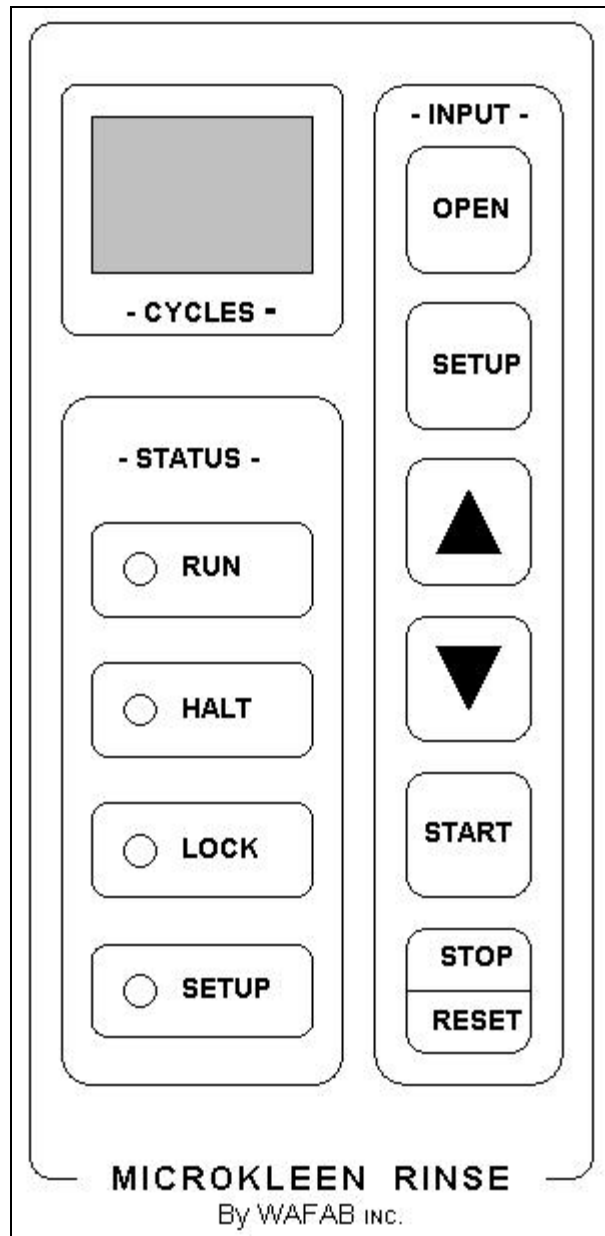
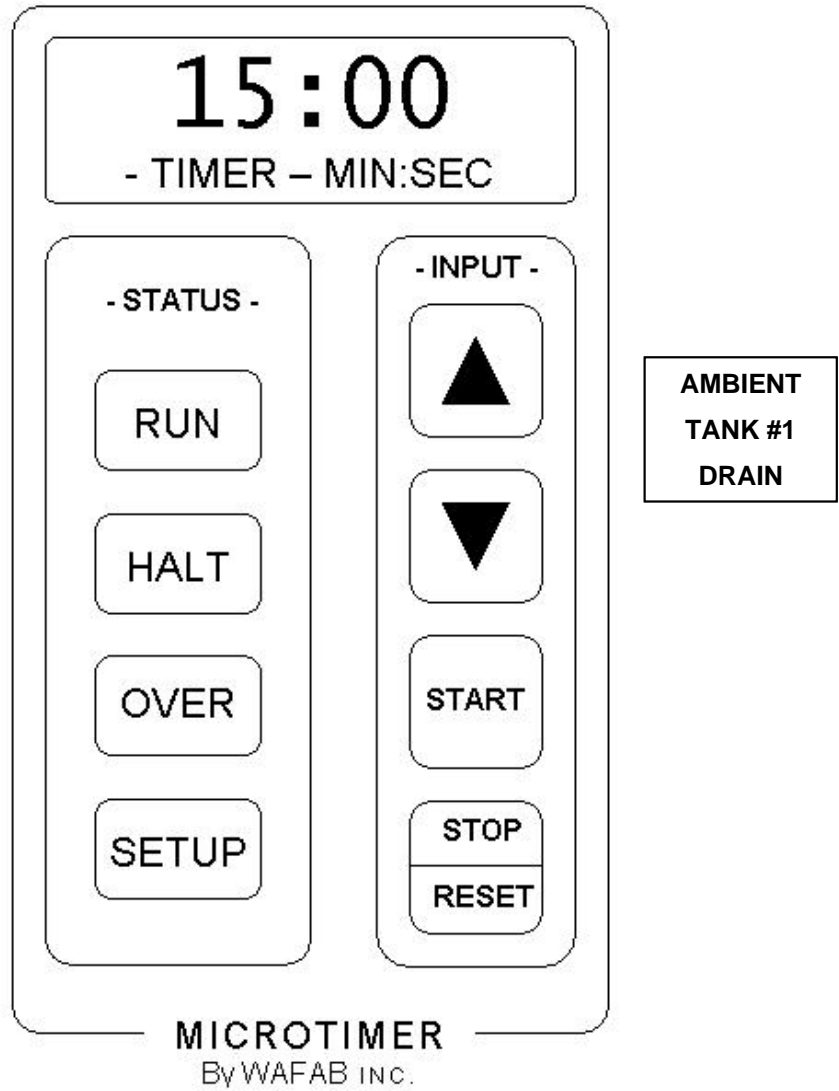
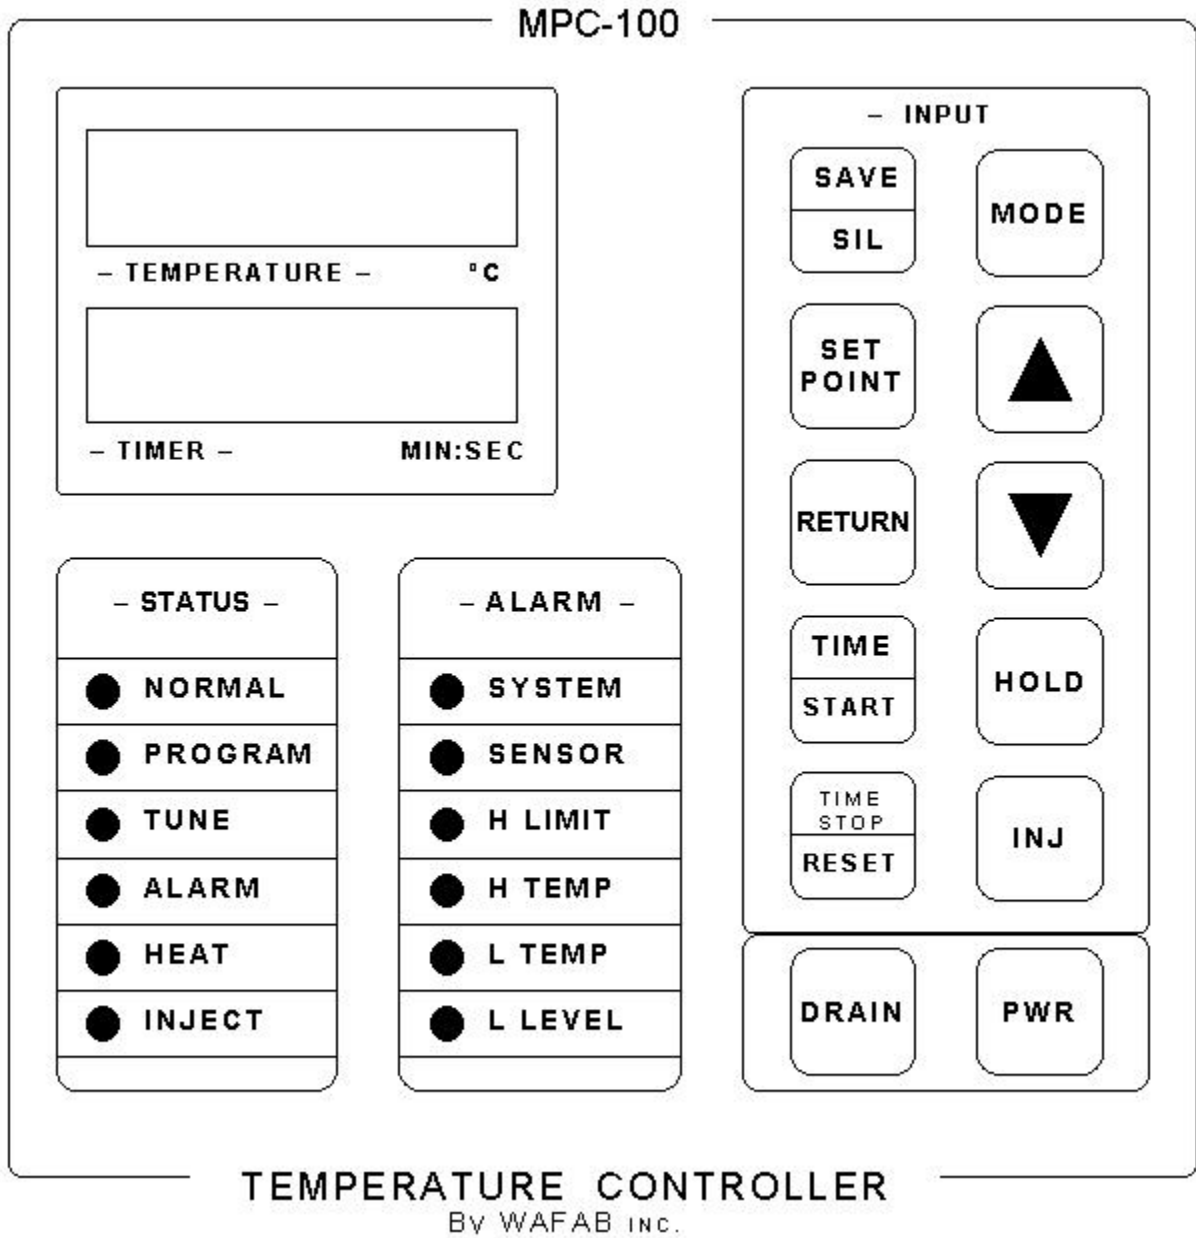

Figure 1 – Quick Dump Rinse (QDR)
Figure 2 – Room Temperature Bath Timer Controller
Figure 3 – Hot Bath Temperature Controller
There are six control/displays at this station, see Section 11.0 (Figures & Schematics). The two MPC-100 (Figure 3) control panels are for the heated baths: the one on the left is for the Big Batch silicon etch, the one on the right for the hot phosphoric bath. The two **MICROKLEEN RINSE** (Figure 1) control panels are for the two quick dump rinse (QDR) stations. Each QDR is currently set up for four dump rinse cycles. Wafers are initially showered with DI water followed by four DI fill-dump cycles. These cycles end with wafers submerged in the water for operator to extract and place them in SRD. See Section 11.0 (Figure & Schematics) for more details. The station performs an automatic self-cleaning, every 60 minutes by one QDR cycle. The **MICROTIMER** (Figure 2) control panel timers for the HF baths are preset to 15 minutes.
- 9.2.2 Press **START** button to activate the dump rinse cycle (Figure 1). It will cycle down from 4 to 1 then show 0 in the display window. At the end of the two cycles a beeping alarm will
- 9.3.2 Press the **START** button if you wish to use the 15-minute preset timer; use of this is optional (Figure 2).
- 9.4.2 Press time/start button to start the etch process cycle with the preset time and temperature (Figure 3).
- 9.5.1 Big Batch Silicon Etch (Figure 3):
- 9.5.2 Room Temperature HF Baths (Figure 2):
9.5.3 Hot Phosphoric Acid Bath (Figure 3):